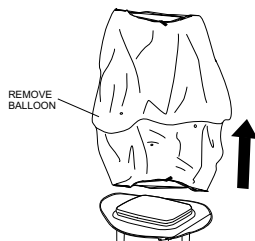

Figure 2. Balloon Removal
5. Detach balloon completely through the top (See Figure 2).